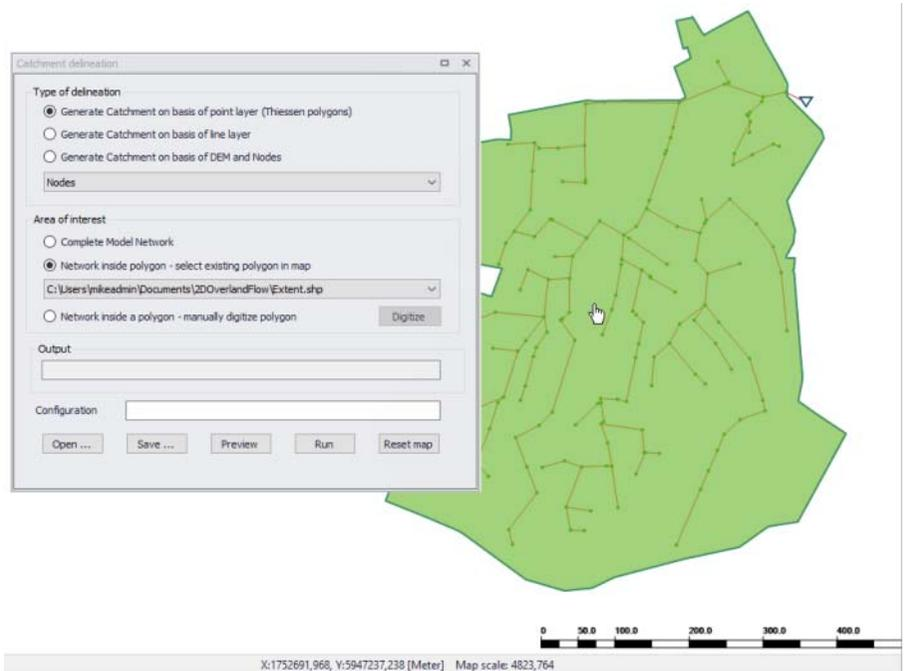

Figure 11.21 Selecting a polygon as a boundary for the delineation
- Network inside polygon - select existing polygon on map. Select an existing polygon from any polygon layer in the project. If this method is selected, the specific layer to be used is chosen from the dropdown menu and the specific feature selected on the map. See Figure 11.21.